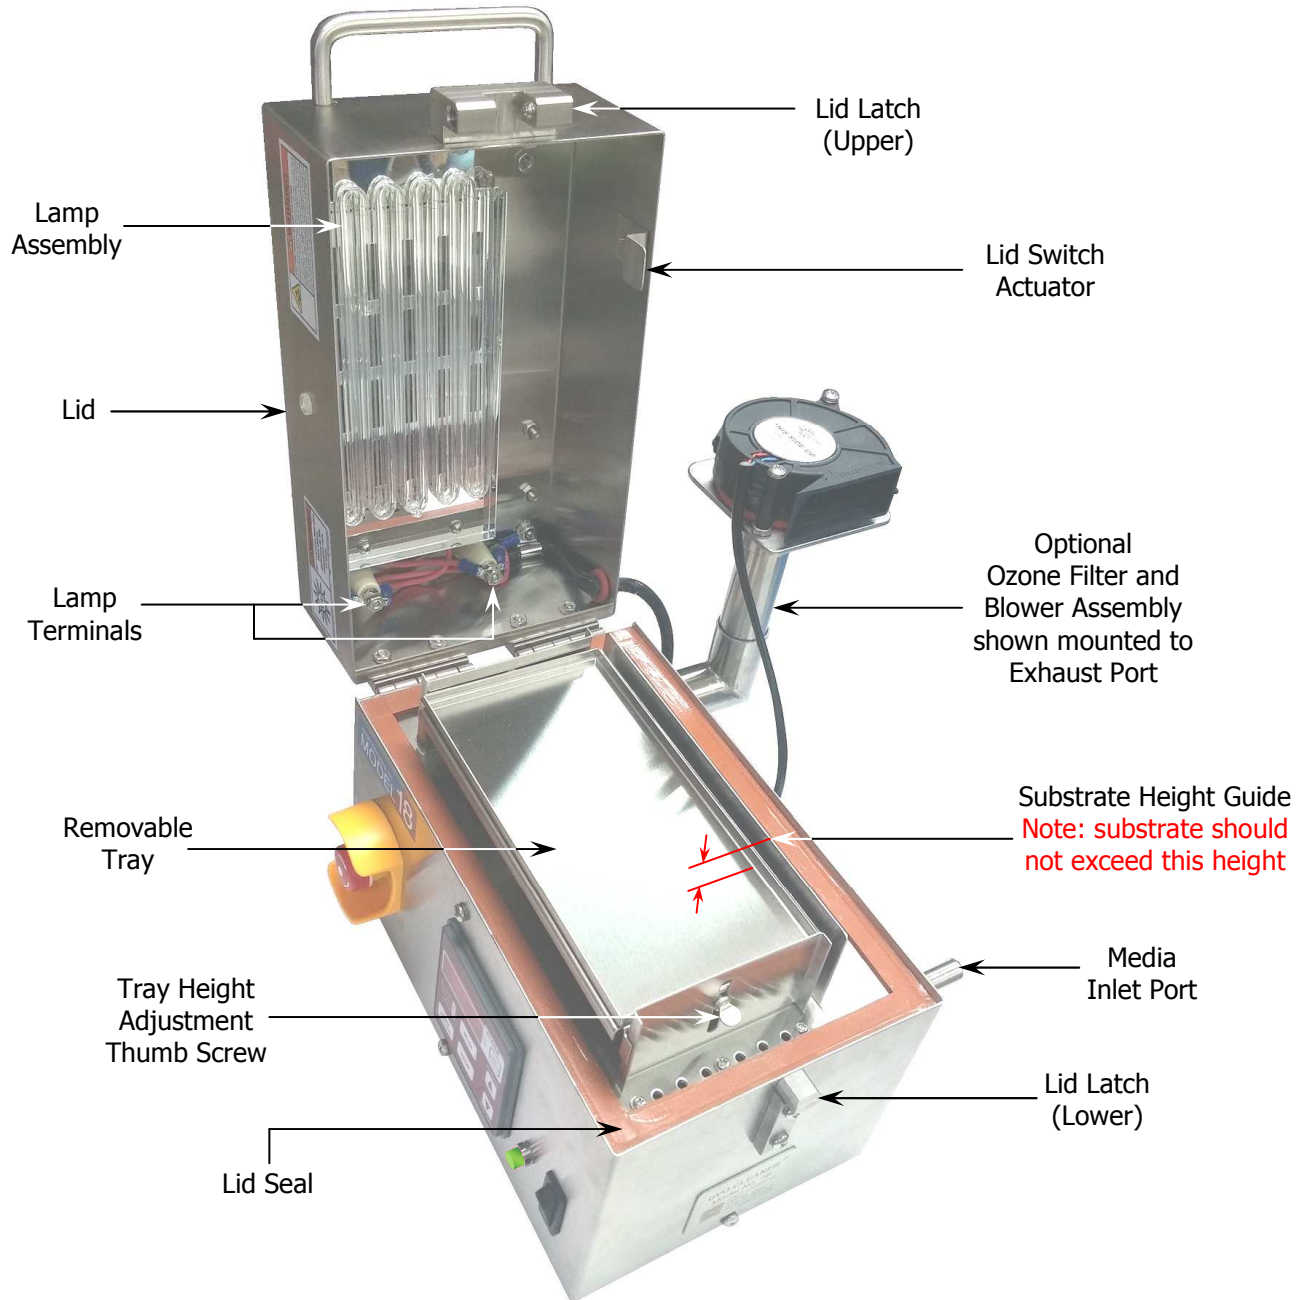

FIG. 3
Refer to Figure 3 and 4
Alternatively, install optional Ozone Filter ⑦ and Blower ⑧ onto Exhaust Port ⑥ and secure with Ozone Filter Locking Screw ⑨. Install Blower Plug ⑩ into Socket Outlet (Blower) at the rear of the machine (see Figure 3).
- 4 Optional: The Ventilation Monitor shown in Figure 3 may be connected to a customer supplied flow meter measuring the exhaust system.
- 5 Remove the vinyl cap from Media Inlet Port ⑪ located at the rear of the system.
- 6 Optional: connect Media Inlet Port ⑪ to a media supply. Media supply should be limited to a maximum of 1 SCFH [.5 lpm] and pressure must be kept to a maximum of 1 psig [6.9 kPa (gauge)]. If ozone is detected outside the machine in operation, reduce flow/pressure accordingly.
- 7 Install Lamp Assembly ④ per Lamp Installation Procedure.
- 1 Open the Lid and load the substrate onto the Removable Tray (12). Substrates should be pre-cleaned before processing in the UVO Cleaner®. Removing large amounts of contamination will take long periods of time. Normal cleaning time should be determined through experimentation.
- 2 Adjust the Tray Height Adjustment Thumb Screws (14) at each end of Tray Support (13) to set the desired height. The height of the tray will vary according to the height of the substrate. For optimum results, the uppermost surface of the substrate should be aligned with the top of the Substrate Height Guide located at the rear of the tray – see Figure 3. This will place the substrate approximately 0.20" [5 mm] below the grid lamp.
- 4 Close the Lid until the Upper and Lower Lid Latches engage. At this time, the Lid Switch Actuator (Figure 3) will activate two safety interlock switches. If the Lid is not closed fully, the interlock mechanism will prevent lamp operation. If the Lid is opened during operation, the lamp will turn off immediately. This feature prevents operator exposure to harmful UV radiation.
- 3 Adjust the tray height so the uppermost surface of the Detector is aligned with the top of the Substrate Height Guide at the rear of the tray – refer to Figure 3. This will place the Detector window approximately 0.20" [5 mm] below the grid lamp.
The system has power but the Timer and Lamp do not operate.	<ul style="list-style-type: none"> • Check the Lid is closed properly. The Lid Switch Actuator (see Figure 3) must activate two safety interlock switches before the Timer will operate.